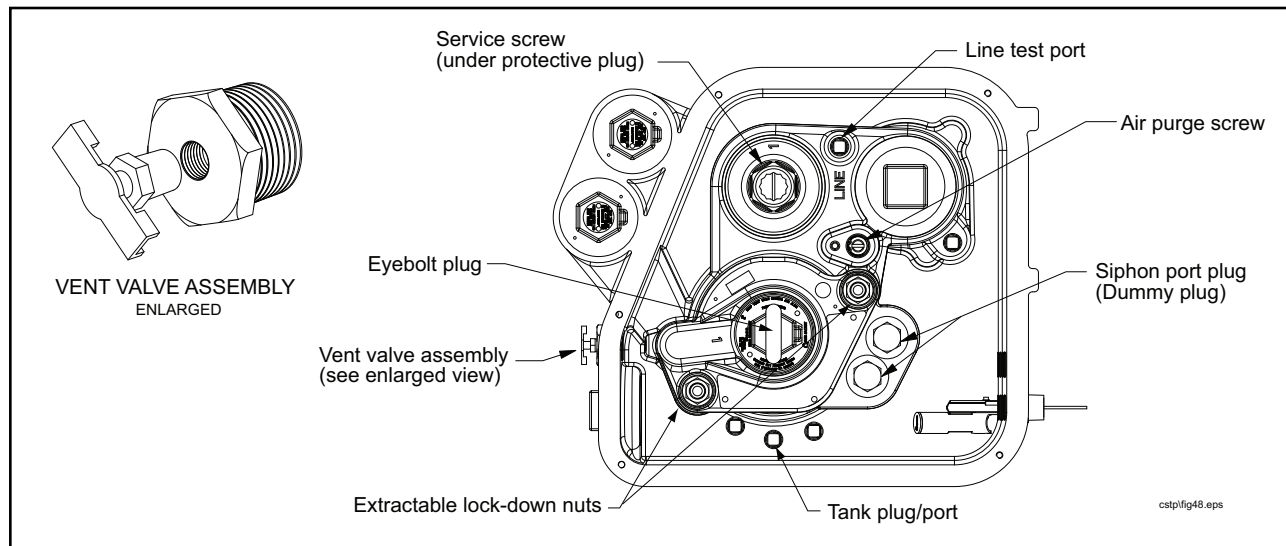

Figure 52. Locating Vent Valve Assembly
7. Remove and discard the vent valve assembly (see Figure 52).
8. Remove the dummy plug that is going to be replaced from the manifold (see Figure 52).
13. Turn the air purge screw counterclockwise until its shoulder comes in contact with the retaining ring (see Figure 52).
16. Turn the air purge screw counterclockwise until its shoulder comes in contact with the retaining ring (see Figure 52).
7. Remove the eyebolt plug (see Figure 52).